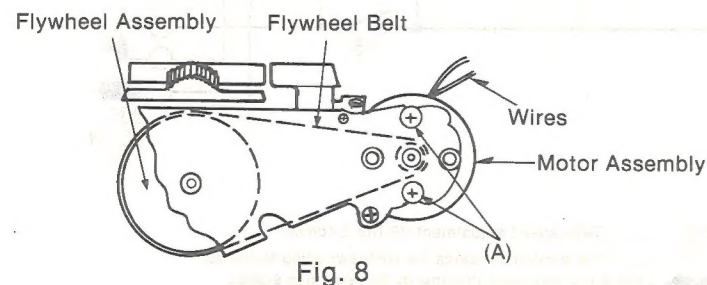

Fig. 8
1. Remove two screws (A) to remove the motor assembly. (See fig. 8.)
2. Mount the motor assembly so that its lead wires direct as shown in fig. 8.